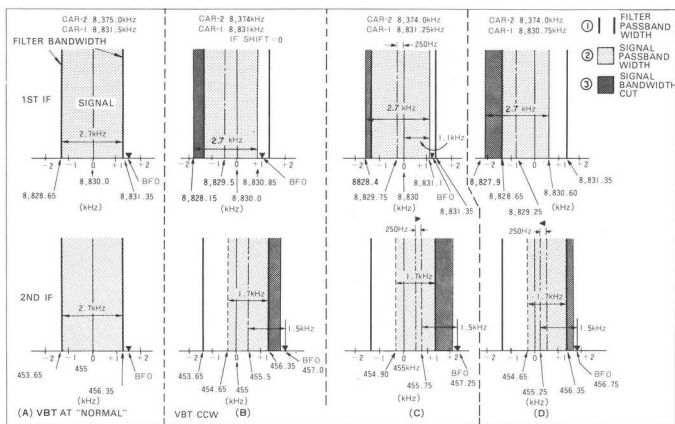

Fig. 5.4 VBT Operation
Fig. 5-4 (A) shows filter F2 and F5 characteristics and the signal status where the VBT(CAR-2) is set to 8.375 kHz and CAR-1 to 8.8315 kHz. Since the filter characteristic coincides with the signal, the passband is 2.7 kHz.
Fig. 5-4 (B) shows CAR-2 set to 8.374 kHz and CAR-1, interlocked with the VBT, set to 8.831 kHz. In this instance, with the VBT control counterclockwise the signal passing through F2 is shifted down by 500 Hz. Bandwidth of the signal passing through the 8.830 kHz filter is 8,828.65-8,830.85 kHz, or 500 Hz narrower than "normal". Thus, filter bandwidth becomes 2.2 kHz, and the signal passing through the 455 kHz filter becomes 455.5 kHz \pm 850 Hz- the overall bandwidth of signals passing through F2 and F5 is therefore 1.7 kHz.
Fig. 5-4(C) shows CAR-1 set to 8,831.25 kHz with the VBT control positioned as in Fig. 5-4(B) and the IF SHIFT control adjusted clockwise. Since CAR-1 has been set to 8,831.0 kHz (in Fig. 5-4(B)), the signal center frequency is 250 Hz higher even when the IF SHIFT control is centered.
In this case, signal bandwidth through F2 is 8,828.65 — 8,831.1 kHz or 2.4 kHz which is 250 Hz narrower than "normal", where the signal through F5 is the same as in Fig. 5-4(B). The difference frequency (8,831.25 — 8,374.0) between CAR-1 and CAR-2 is 457.25 kHz, which is a Carrier frequency 1.75 kHz higher than the sum of F2 and F5 composite center frequency.
Consequently, the bandwidth is 1.7 kHz, and filter center frequency is shifted +250 Hz as compared to ANT input. Fig. 5-4(D) shows 1.7 kHz bandwidth as in Fig. 5-4(C), but with the center frequency shifted —250 Hz.